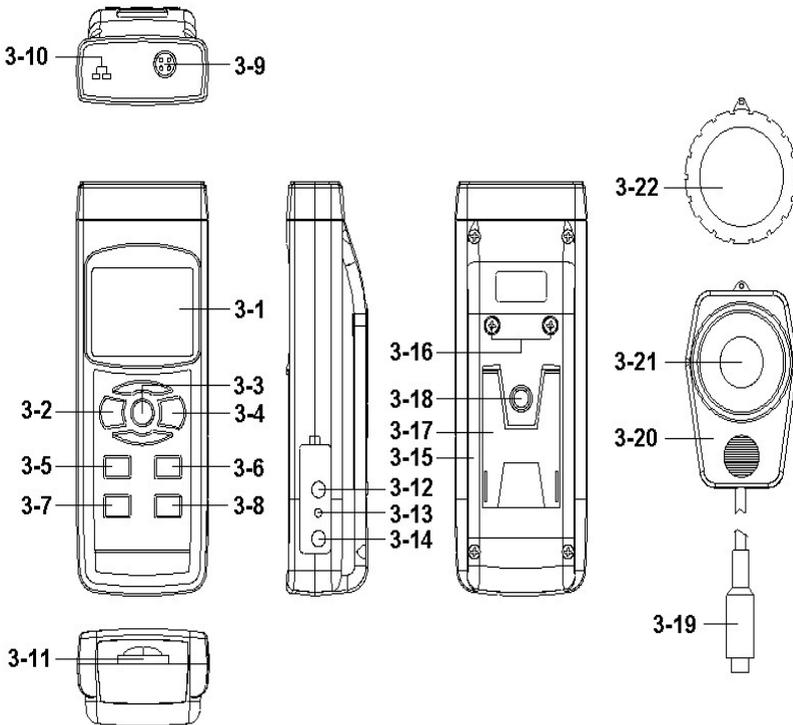

Fig. 1
1) Power on the meter by pressing the " Power button " (3-2, Fig. 1) > 3 seconds continuously.
Pressing the " Function Button " (3-6, Fig. 1) > 3 seconds (not release the button), the Display will show the following text in sequence :
Until the Display show the desired mode (Function), just release the " Function Button " (3-6, Fig. 1), the meter will execute this function with default.
- a. Install the " Probe Plug " (3-19, Fig. 1) into the " Probe Input Socket " (3-9, Fig. 1).
- b. Power on the meter by pressing the " Power Button " (3-2, Fig. 1). The display will show the " LUX " (Ft-cd) unit Now the meter is ready for make the measurement.
- c. Use the fingers to hold the " Sensor Handle " (3-20), face the " Light Sensor " (3-21, Fig. 1) against to the measurement light source directly. The display will show the light measurement value.
- * *If intend to change the Light unit (LUX, Ft-cd), press the Unit Button " (3-5, Fig. 1) > 3 seconds, the unit will change from LUX, Ft-cd in sequence, until the desired unit is present on the Display release the Unit Button ", the select unit will save into the memory with default.*
- * ***During the normal Light measurement, if blank the Light Sensor (3-21, Fig. 1) by " Sensor Cover " (3-22, Fig. 1), the display not show zero value, press the " ▲ Button " (3-5, Fig. 1) and " ▼ Button " (3-6, Fig. 1) together > 3 seconds, Display will show zero value. Upon completion, remove the sensor cover.***
- b. Not install the LUX " Probe Plug " (3-19, Fig. 1) into the " Probe Input Socket " (3-9, Fig. 1)
- c. Plug the Thermocouple Temp. Probe (Type K Temp. probe or Type J Temp. probe, optional) into " Type K/J Probe Input Socket " (3-10, Fig. 1)
During the measurement, press the " Hold Button " (3-3, Fig. 1) once will hold the measured value & the LCD will display a " HOLD " symbol.
- 1) The data record function records the maximum and minimum readings. Press the " MAX/MIN Button " (3-4, Fig. 1) once to start the Data Record function and there will be a " REC " symbol on the display.
- a) Press the " MAX/MIN Button " (3-4, Fig. 1) once, the " REC MAX " symbol along with the maximum value will appear on the display.
- b) Press the " MAX/MIN Button " (3-4, Fig. 1) again, the " REC MIN " symbol along with the minimum value will appear on the display.
- c) Press the " MAX/MIN Button " (3-4, Fig. 1) again, the the " MIN " symbol will be appeared, LCD only show the " REC " symbol, the meter start the Data Record function again.
- 3) To exit the memory record function, just press the " MAX/MIN Button " (3-4, Fig. 1) > 3 seconds continuously. The display will revert to the current reading.
- 1) After power ON, the " LCD Backlight " will light automatically. During the measurement, Push the " Backlight Button " (3-2, Fig. 1) once , will turn OFF the " LCD Backlight " .
Prepare a " SD memory card " (1 G to 16 G, optional), insert the SD card into the " SD card socket " (3-11, Fig. 1). The front panel of the SD card should face against the the down case.
Press the " LOG Button (3-8, Fig. 1) > 3 seconds continuously, the lower LCD will show the text of " Log " then " REC " symbol will flashing per sampling time, at the same time the measuring data along the time information will be saved into the memory circuit.
During execute the Datalogger function, if press the " LOG Button " (3-8, Fig. 1) once will pause the Datalogger function (stop to save the measuring data into the memory circuit temporally). In the same time the the " REC " symbol will stop flashing, the lower LCD will show the text of " Log ".
If press the " LOG Button " (3-8, Fig. 1) once again will execute the Datalogger again, the " REC " symbol will flashing.
During execute the Datalogger function, press the " LOG Button (3-8, Fig. 1) > 3 seconds continuously again will finish the Datalooger function, the " Log " text will be disappeared and finish the Datalogger.
Press the " LOG Button (3-8, Fig. 1) > 3 second , the lower LCD will show the " Position no. " , then press the " LOG Button " (3-8, Fig. 1) once, the " REC " symbol will flashing once and Beeper will sound once, at the same time the measuring data along the time information will be saved into the memory circuit.
*During execute the Manual Datalogger, it can use the " ▲ Button " (3-5, Fig. 1) or " ▼ Button " (3-6, Fig. 1) to set the measuring position (1 to 99, for example room 1 to room 99) to identify the measurement location , the lower Display will show P x (x = 1 to 99).
During execute the Datalogger function, press the " LOG Button (3-8, Fig. 1) > 3 seconds continuously again will finish the Datalogger function, the Position no. " PXX " will be disappeared and finish the Datalogger. function.